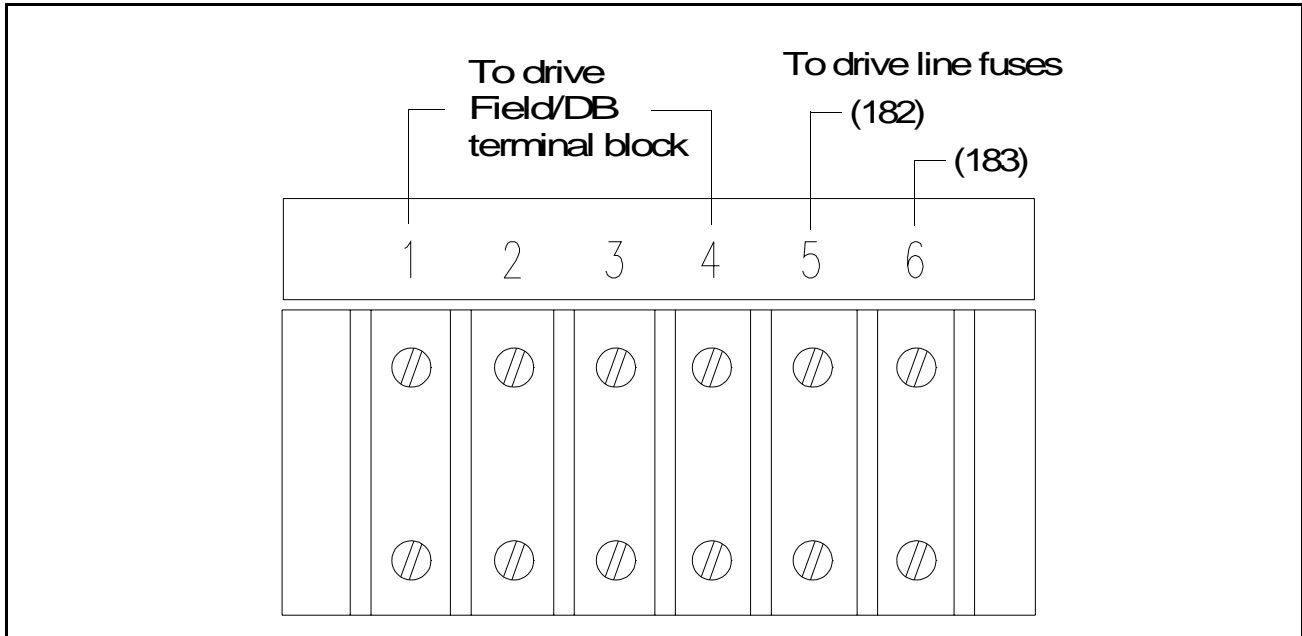

Figure 5 – DB Control Terminal Block
Step 10. Connect the drive terminals 1, 2, 3, and 4 to their respective terminals on the DB assembly control terminal block. (The DB assembly control terminal block is located on a bracket above the DB contactor.) See figure 5.
Step 13. Route the control power wire to the DB assembly control terminal block and connect them to terminals 5 (182) and 6 (183). See figure 5.